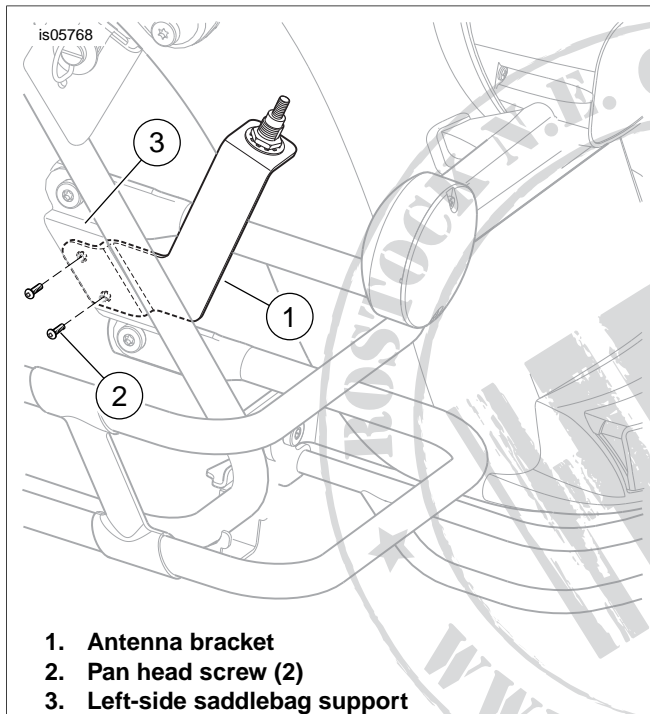

Figure 4. AM/FM Antenna Bracket Mounting to Fender (FLHT and FLHTC)
3. See Figure 4. Install the assembled antenna bracket (1) to the left-side saddlebag support (3) with two pan head screws (2) from the kit. Tighten the screws to 40-60 **in-lbs** (4.5-6.8 Nm).